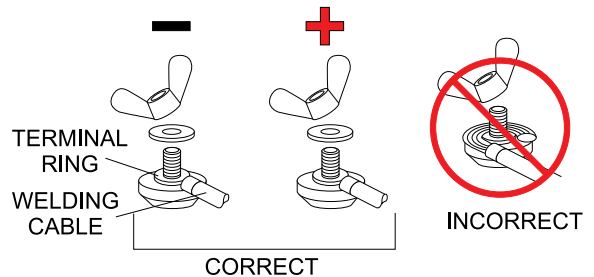

Figure 15. Welder Output Terminals
- ALWAYS** attach terminal ring connectors (Figure 15) to the end of the welding cable that will be connected to the welder output terminals.
- NEVER** connect exposed wires (Figure 15) directly to the welder output terminals. Exposed wiring may cause shocks or di-electric breakdown from poor contact.